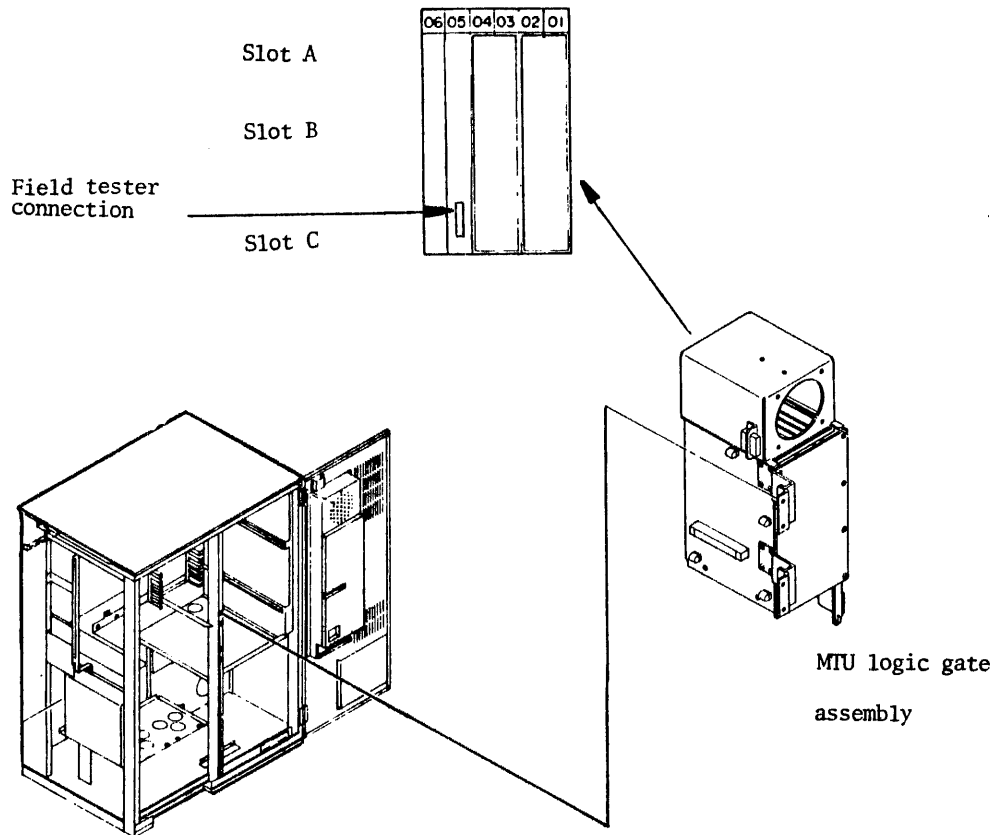

Figure 4-1. Field tester connection to 1C05 on MTU logic gate.
Connect the field tester (B13B-0110-B101A) to slot 1C05 on the MTU logic gate assembly (see Figure 4-1).
- (3) If voltage is not +2.0 V, adjust potentiometers for BOT and EOT, respectively, on the MTU PCA. See Figures 4-1 and 4-5 for location of this card and BOT & EOT potentiometers.